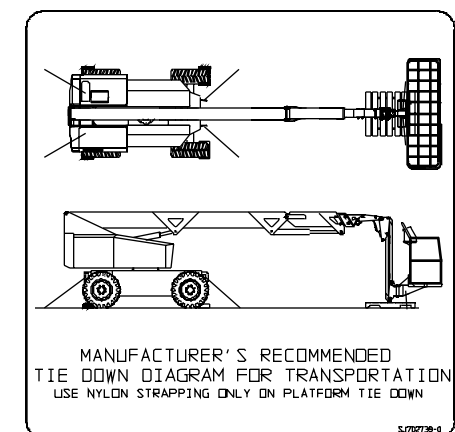

Figure 2-11. Recommended Tie Down Locations
3. With machine loaded on trailer, tie down as recommended. (Refer to Figure 2-11.)